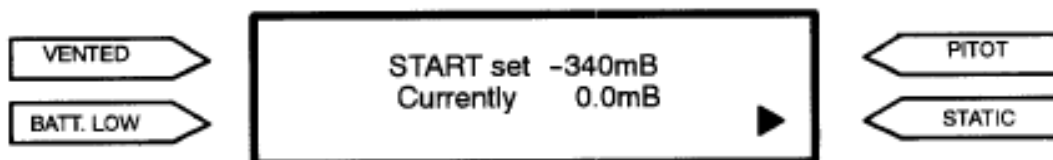

Figure 22 Calibrating at First Set Point
- C. Press the START key. The screen displays the first Set Point for calibration (*Figure 22*). The value displayed for the 'current' pressure should be zero but will vary, depending on whether there is any pressure residue in the system.